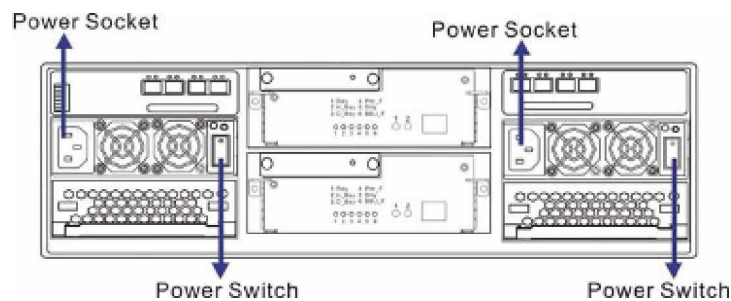

Figure 5-21: Power Sockets and Power Switches
**Step 1. Turn off the PSU.** Using the power switch can be found on the right side of each PSU module. (See **Figure 5-21**)
**Step 2. Remove the power cable** that connects the FALCON III to the main power source. The power socket is found on the left side of each power supply module. (See **Figure 5-21**)